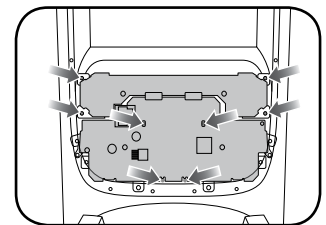
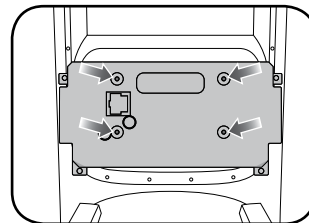

Fig. 1.8
Fig. 1.9
- Install the circuit board, making sure the rubber pads are seated properly and boards clip back in. (Fig. 1.8) Locate the back cover in the DUR1 kit that fits your climate controls then secure it with 8 torx screws (Fig. 1.9)